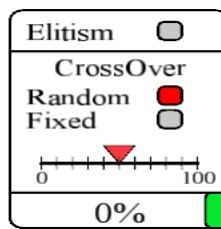

Figure 9: GA Optimization Parameters Configuration
- Crossover style (fixed or random), and inclusion of the Elitism option by clicking on the green button beside the progress percentage, as shown in Figure 9.